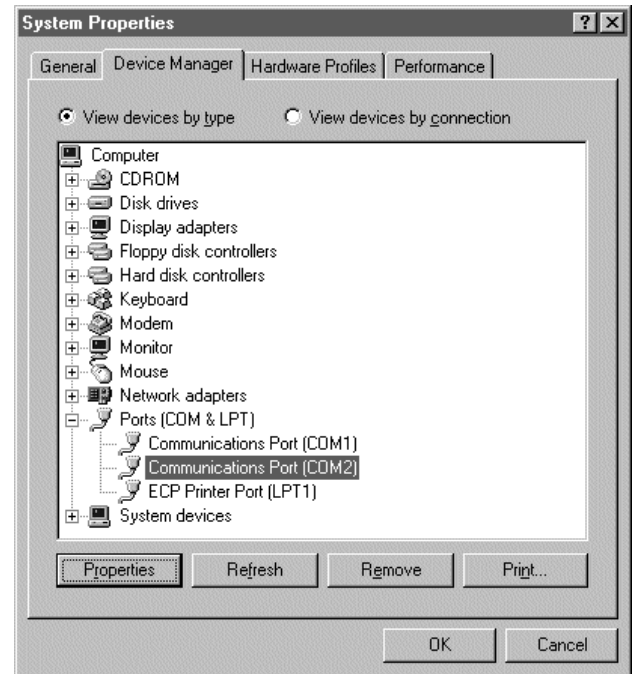

Figure 9-4: System Properties Dialog Box
6. The relevant screen is shown in Figure 9-4.